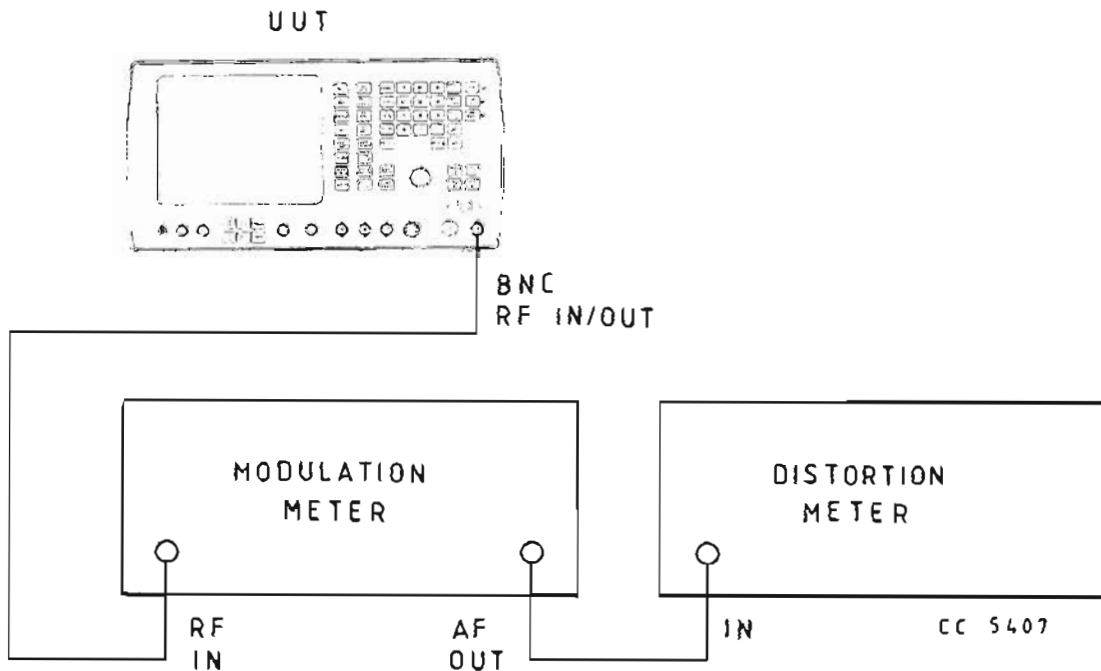

Fig. 23 Test equipment connections for r.f. generator a.m. & f.m. distortion performance checks
- (1) Connect the equipment as shown in Fig. 23.